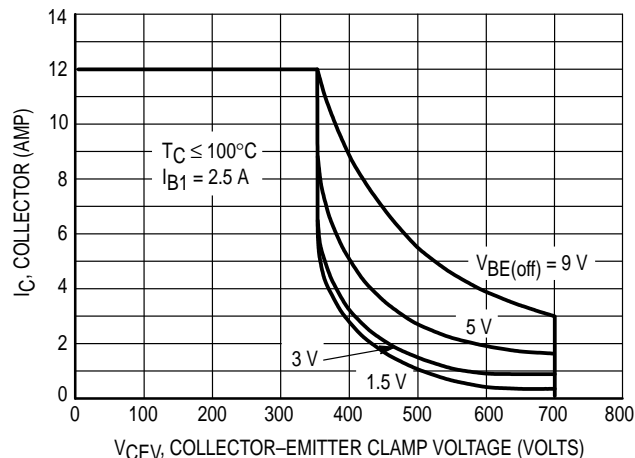
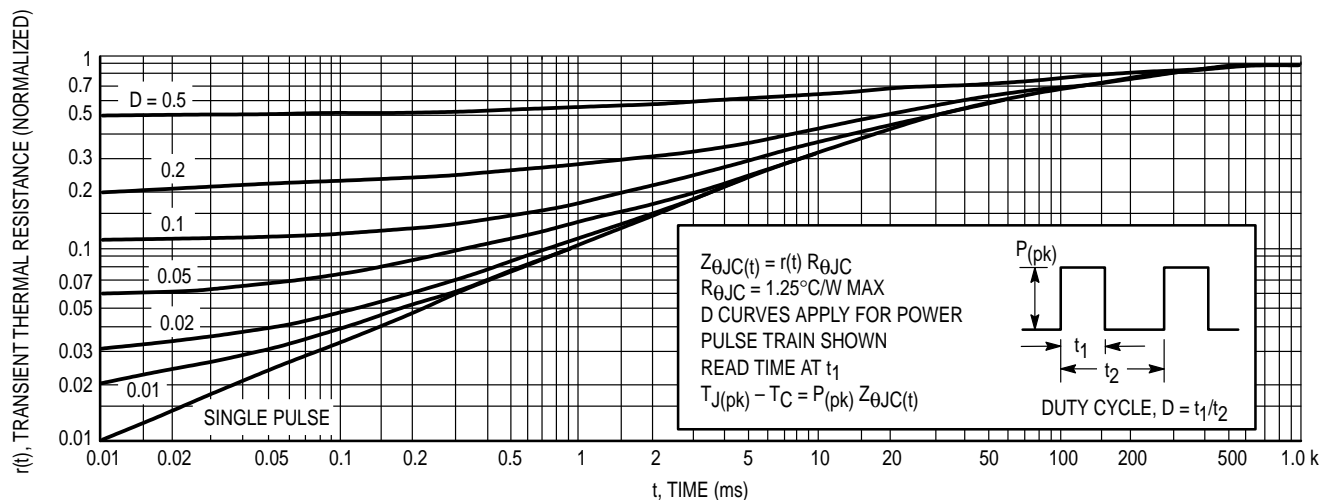

Figure 2. Reverse Bias Switching Safe Operating Area
Figure 4. Typical Thermal Response $[Z_{\theta JC}(t)]$
$T_{J(pk)}$ may be calculated from the data in Figure 4. At high case temperatures, thermal limitations will reduce the power that can be handled to values less than the limitations imposed by second breakdown. Use of reverse biased safe operating area data (Figure 2) is discussed in the applications information section.
For inductive loads, high voltage and current must be sustained simultaneously during turn-off, in most cases, with the base to emitter junction reverse biased. Under these conditions the collector voltage must be held to a safe level at or below a specific value of collector current. This can be accomplished by several means such as active clamping, RC snubbing, load line shaping, etc. The safe level for these devices is specified as a Reverse Bias Safe Operating Area (Figure 2) which represents voltage-current conditions that can be sustained during reverse biased turn-off. This rating is verified under clamped conditions so that the device is never subjected to an avalanche mode.
- (3) The base drive conditions are within the specified limits shown on the Reverse Bias SOA curve (Figure 2).